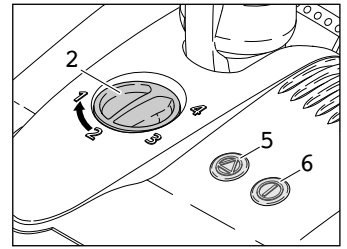
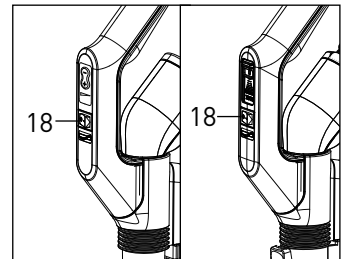
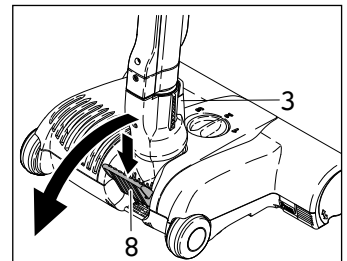

Figure 4
Figure 5 - on/off power switch on handle
Figure 6
## Operating The Power Head Without Foot Switch - Figures 4, 5 & 6
**A.** The power head may be switched on by pressing the button on the handle of the telescopic tube (figure 5). When the power head is switched on with the swivel neck (#3, figure 6) in the upright locked position, the brush roller will not spin. To release the power head from the upright locked position, press down on the foot pedal (#8, figure 6) and lower the swivel neck into the normal operating position. The brush roller will then start spinning and the on/off light on the power head will illuminate in green. The handle can be lowered to a horizontal position useful for vacuuming under beds.
**B.** To switch from brushing action to straight suction for delicate floors, press the brush roller on/off switch (#18, figure 5) on the handle of the telescopic tube. This will power off the brush roller on the power head. The brush roller indicator light on the power head will turn off until the on/off switch is turned on again.
## Operating The Power Head With Foot Switch - Figures 4 & 6
**A.** When the power head is switched on with the swivel neck (#3, figure 6) in the upright locked position, the brush roller will not spin and the on/off light will illuminate in yellow. To release the power head from the upright locked position, press down on the foot pedal (#8, figure 6) and lower the swivel neck into the normal operating position. The brush roller will then start spinning and the on/off light on the power head will illuminate in green. The handle can be lowered to a horizontal position useful for vacuuming under beds.
**B.** To clean delicate or hard floor surfaces with straight suction only, the power head is equipped with an on/off foot switch (#6, figure 4). When this switch is used to turn off the brush roller, the green light will change to yellow, indicating to the user that the brush roller is not turning. Pushing the button again will turn on the brush roller and the light will turn green.
## The Brush Height Adjustment Feature - Figure 4
## Indicator Lights - Figures 4, 6 & 7
By pushing the foot pedal (#8, figure 6) and lowering the swivel neck, you activate the power head and the brush begins spinning. Failure to use the foot pedal will cause lasting damage to the machine. The electronic brush control constantly monitors the status of the brush, communicating the status through the lights on top (figure 4).
4. Models without foot switch: The on/off switch on the handle of the telescopic tube is in the off position.  4. Models with foot switch: The on/off switch on the power head is off.	4. Models without foot switch: Press the on/off switch on the handle of the telescopic tube to turn the power head on. See figure 5, page 6.  4. Models with foot switch: Press the power head brush on/off switch. See figure 4, page 6.